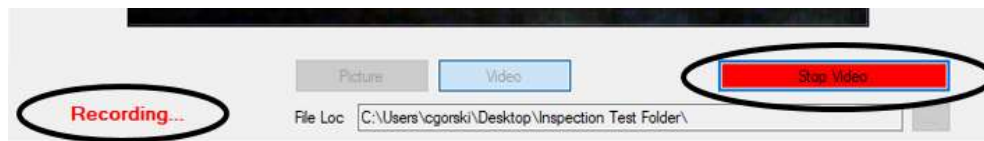

Figure 12
3. When the video is recording, "Recording" in red text will appear toward the bottom of the software window. **Fig. 12**
4. To stop recording, use any method as described in Step 2 above for stopping the video. **NOTE:** The Image Capture Button will now read 'Stop Video' while recording. **Fig. 12**